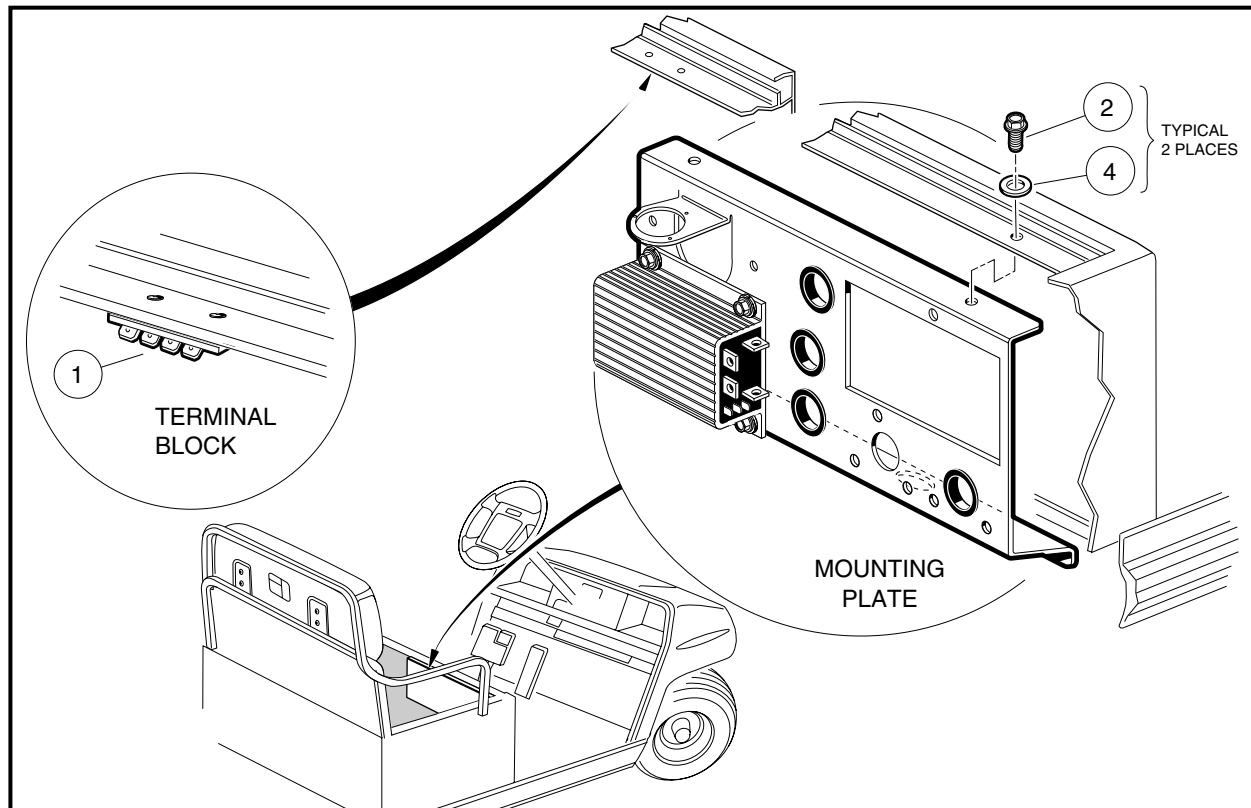

Figure 4-4 Center Body Electrical Mounting Plate
7. Remove the two bolts (2) and two flat washers (4) that secure the electrical mounting plate to the center body assembly (**Figure 4-4, Page 4-6**).
8. Remove all wires from the terminal block (1) located on the driver side of the center body assembly.